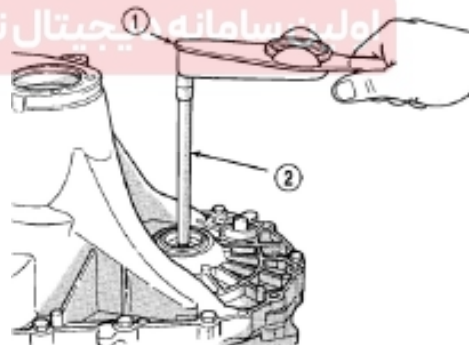

Figure 3-102 Checking the rotating torque of differential bearing
(7) The proper bearing preload for gasket equals to the total end gap plus (constant) 0.18mm (0.007 in.). Never combine the gasket to get required preload.
(8) Screw off the casing bolt and remove differential bearing cap on clutch outer race, and then assemble the gasket selected in step 7 and press the bearing cap into the outer race.
(9) Assemble the clutch outer race, then assemble and screw down bolt to the torque 26 Nm (19 ft. lbs.).
(10) Check the rotating torque of differential assembly with dedicated tool C-4995 and inch-pound torque spanner (Figure 3-102). The rotating torque should be 6~12 in. lbs.. In case of excess rotating torque, change another gasket 0.05mm (0.002 in.) thinner; in case of inadequate rotating torque, change another gasket 0.05mm (0.002 in.) thicker.